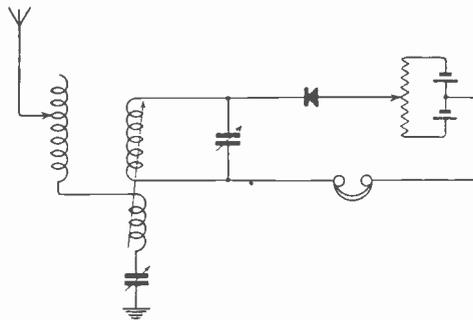

Fig. 2.
(1) We fail to see the use of this information, but the A.T.I. will contain about 300 turns; coupler primary 120 and coupler secondary about 400.
(2) See diagram Fig. 2.
(3) Maximum about 3,000 metres.
(4) There is no simple rule, but you will find a formula which gives fairly good results for close-wound coils on page 22 of Nottage's "Calculation of Inductance and Capacity."